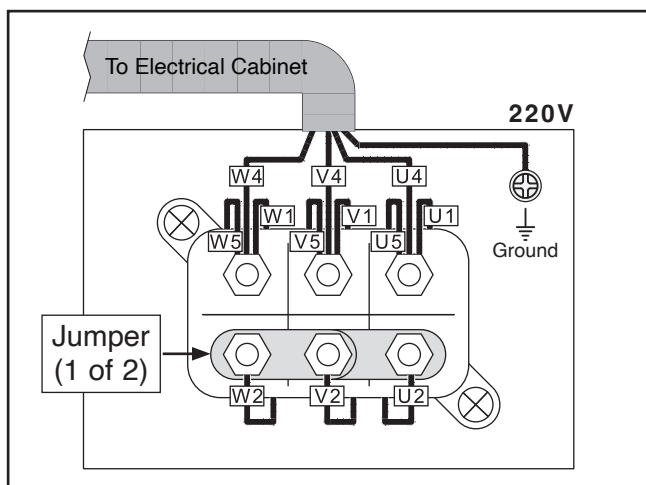

Figure 19. Table elevator motor wiring (220V).
21. Remove jumpers (see **Figure 19**).